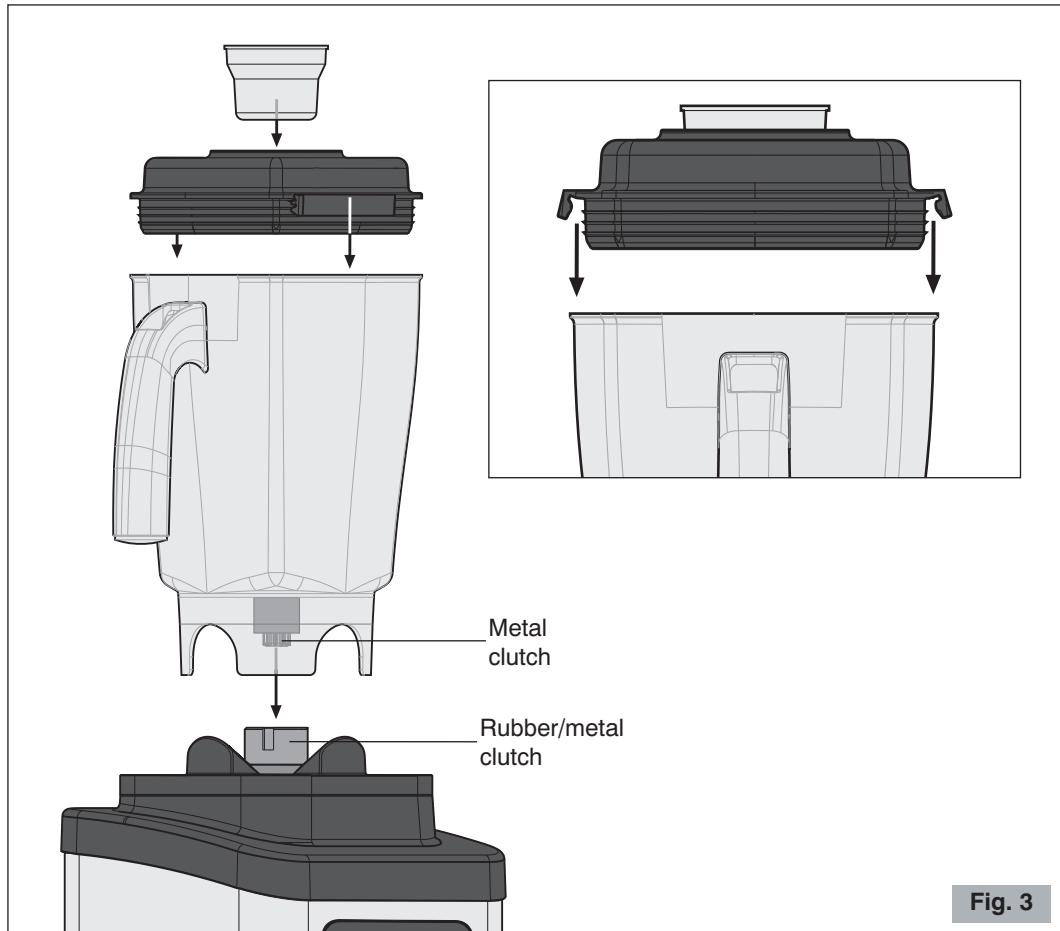

Fig. 3
- 2** Stand the container on the base fitting it into its support as shown in figure 3.
- 3** Fit the lid on the container by pressing on the closing hooks (see Fig. 3).